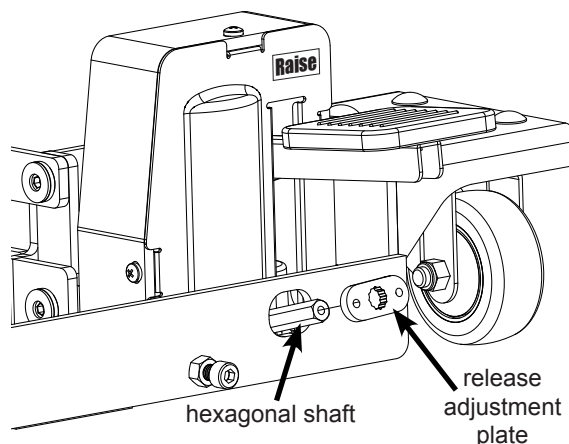

Fig. 6
6. After removing the release lever, you will see a release adjustment plate (see Fig. 6). That plate has a hole with 12 notches. To decrease the speed at which the saw lowers, slide the adjustment plate off the hexagonal shaft and rotate the plate counter-clockwise one notch ( $\frac{1}{12}$ th of a turn) before sliding it back onto the shaft. To increase the speed at which the saw lowers, slide the adjustment plate off the hexagonal shaft and rotate the plate clockwise one notch ( $\frac{1}{12}$ th of a turn) before sliding it back onto the shaft.